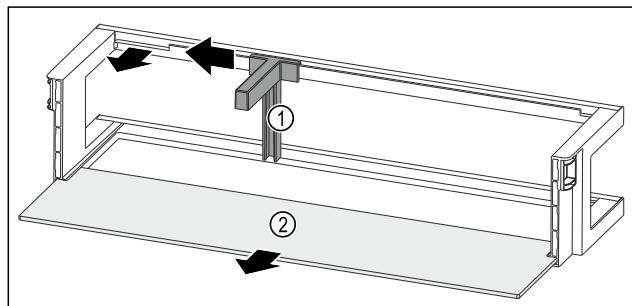

Fig. 117 Door rack with bottle holder and shelf
- ▶ Slide the bottle holder Fig. 117 (1) to the side as far as the recess.
- ▶ Remove the bottle holder Fig. 117 (1).
- ▶ Remove the shelf Fig. 117 (2).